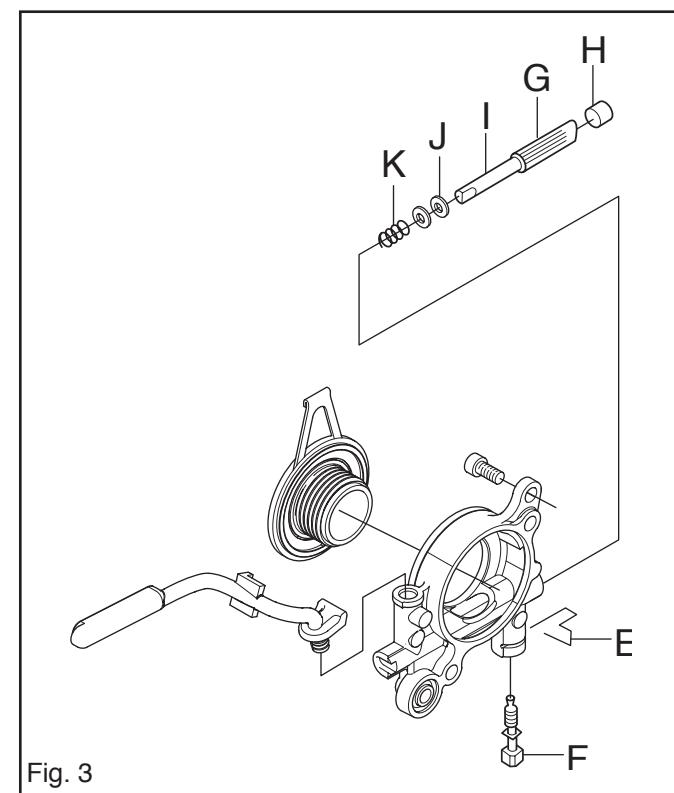

Fig. 3
7. Remove the clip (E) and unscrew the adjuster screw (F). See fig. 3.
8. Use a pair of pliers and push on the pump piston at G so that the cover plug (H) and pump piston (I) can be removed. See fig. 3.
9. Use a pair of pliers and pull out the spring (K) and 2 washers (J). See fig. 3.
2. Put the spring (K), 2 washers (J) on pump piston (I) and fit in the pump housing. Oil in all parts with chain oil. See fig. 3 page 28.
3. Use a screwdriver to press in the pump piston and screw home the adjuster screw (F). See fig. 3 page 28.
4. Fit the cover plug (H). See fig. 3 page 28.